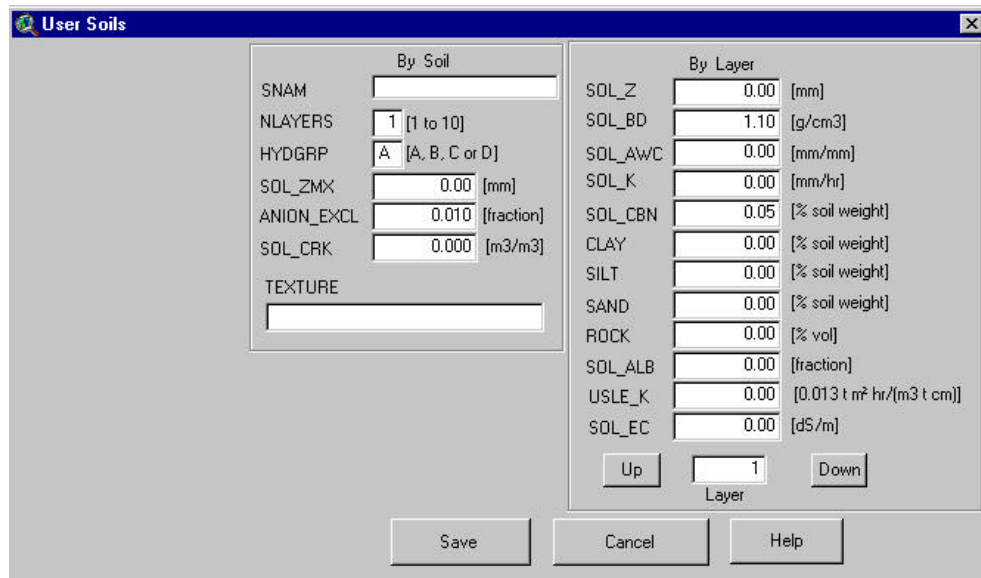

Figure 14.9
- b. A modified dialog box will appear which contains input fields for the soil profile data (Figure 14.9). If the minimum value in a field is greater than 0.0, the interface will preset the value in the blank form to that minimum.